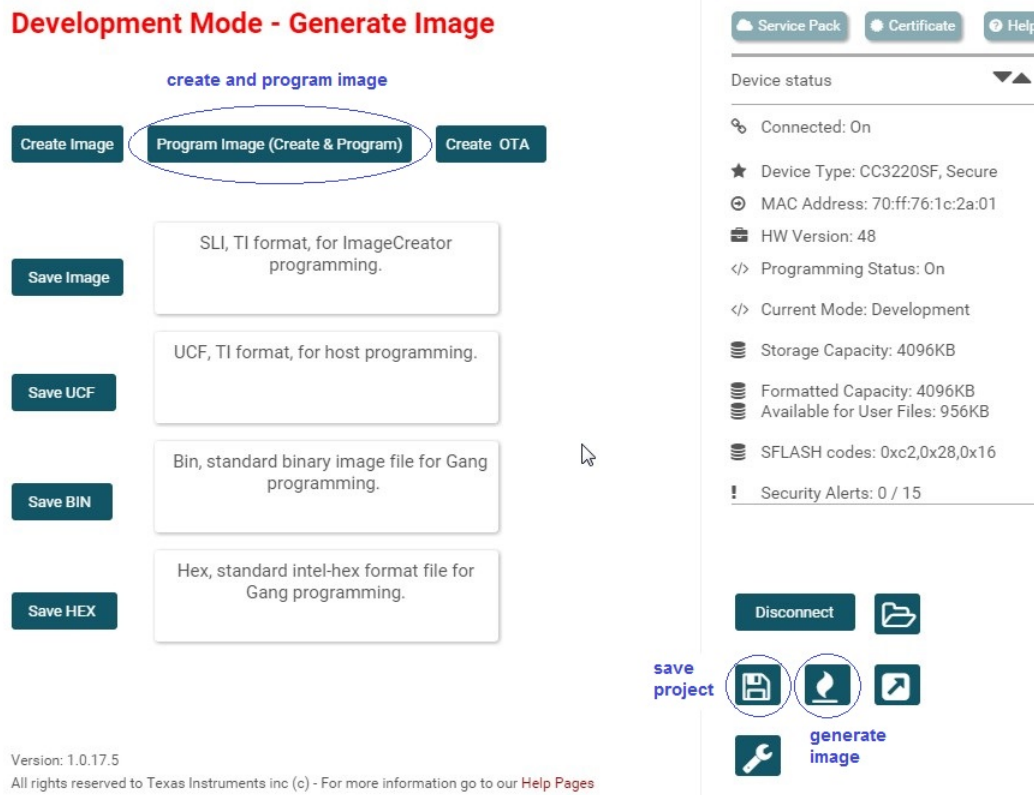

Figure 14. Program Image and Generate Image
- Save the project and click on the Generate Image icon (see Figure 14).
- Click the Program Image button (see Figure 14). The image is now programmed to the device.